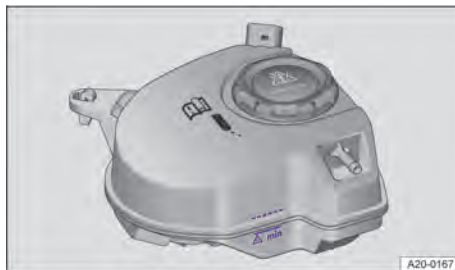

Fig. 201 In the engine compartment: mark on the coolant expansion tank (illustration).
1. When the engine is cold, check the coolant level at the side markings of the coolant expansion tank → Fig. 201.